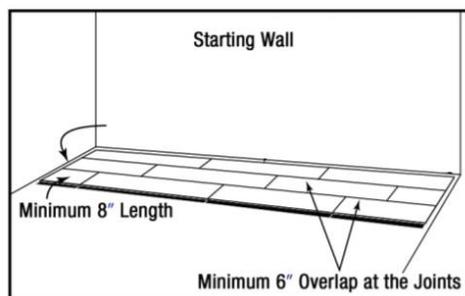

Fig. 3 Stagger end joins by 6 in. and cut pieces at end of row should be 8 in. or greater
- Start the second row on the left side with a piece cut to about 2/3 the length of the starting plank in the first row. It is important to keep the end joints staggered a minimum of 6 in. in adjacent rows (Fig. 3). Both the long side edges and the short ends of planks should be neatly butted against adjoining planks and those in adjacent rows. Use one hand to hold the plank, and the other hand to guide the edges into place by lowering the plank as you go. It's important to butt the edges together neatly. Press into place to obtain adhesion. If the joints are not tight, pull up the plank and reposition it immediately.